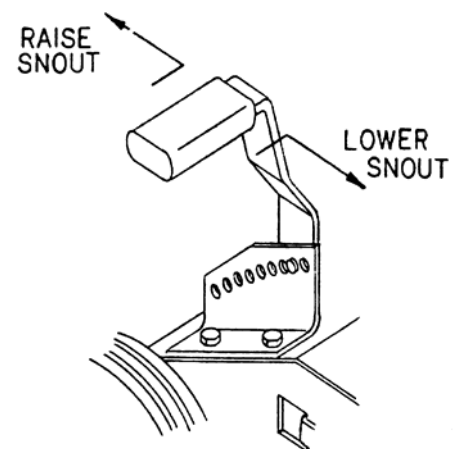

Figure 22
3. **To raise the snout:** Grasp the height adjuster handle, apply pressure away from the adjuster plate and BACK towards the operators position (**Figure 22**).